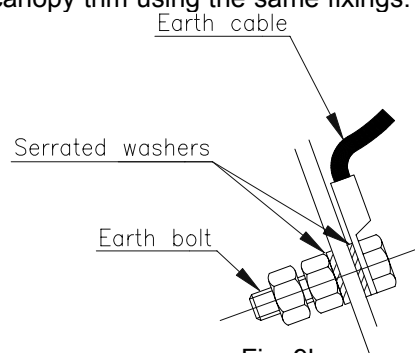

Fig. 9b
6. Connect the earth cable to the earth bolt in the convection box side, ensuring that the serrated washers are fitted as shown in Fig. 9b.